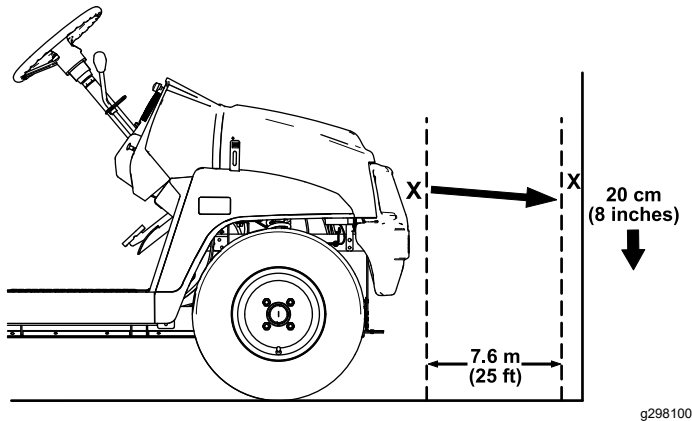

Figure 44
1. Park the machine on a level surface with the headlights approximately 7.6 m (25 ft) from a wall (Figure 44).
The brightest part of the headlight beam should be 20 cm (8 inches) below the mark placed on the wall (Figure 44).